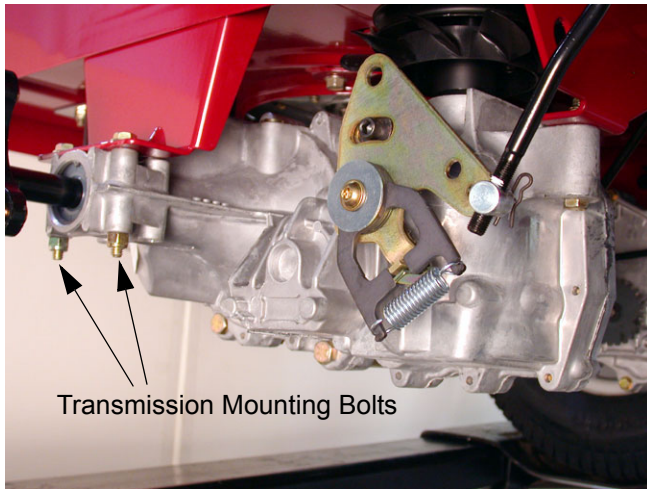

Figure 9.12
- 9.12. Remove both transmission mounting bolts securing the transmission to the mounting bracket using two 1/2" wrenches. See Figure 9.12.